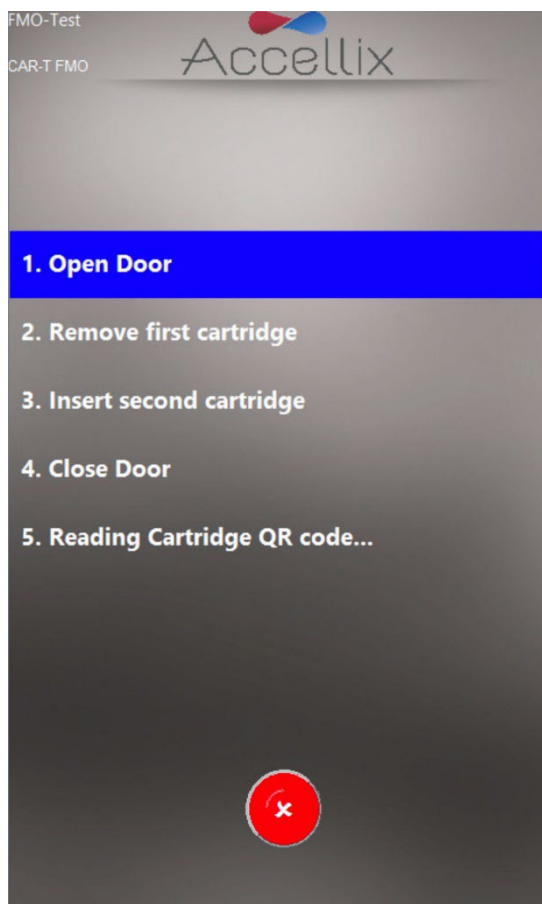

Figure 52: Dual-Cartridge Remove screen
1. The **Dual-Cartridge Remove** screen instructs the user to remove the first cartridge and insert the next cartridge in the sequence (Figure 52).